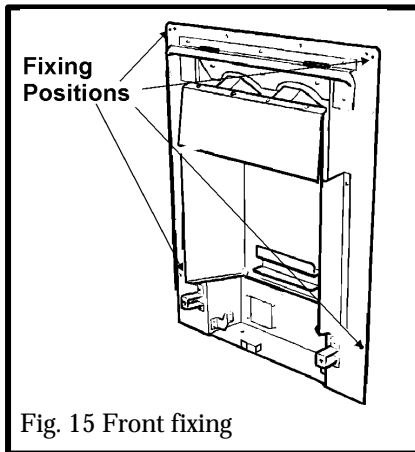

Fig. 15 Front fixing
7.1.2 Mark the fireplace front surround through the four fixing holes in the side flanges of the convection box (see figure 15).